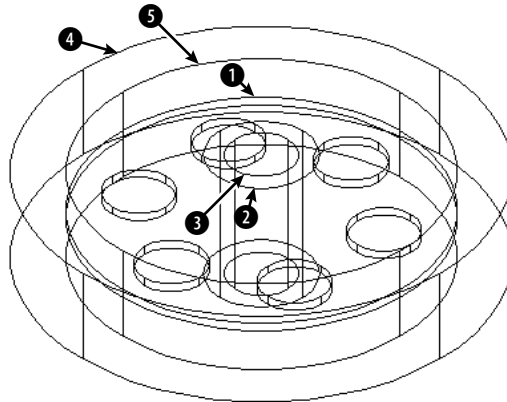

Figure 24-17: These solids are the basis for the model.
2. Save the file as `ab24-03.dwg` in your AutoCAD Bible folder. Make sure that OSNAP is on. Set running object snaps for endpoint, midpoint, and center. This drawing is measured in millimeters. The solids have been created by drawing circles, using EXTRUDE, and moving the solids to the proper Z coordinate. The result is shown in Figure 24-17.
Select objects: *Select the central plate at ❶ in Figure 24-17.*